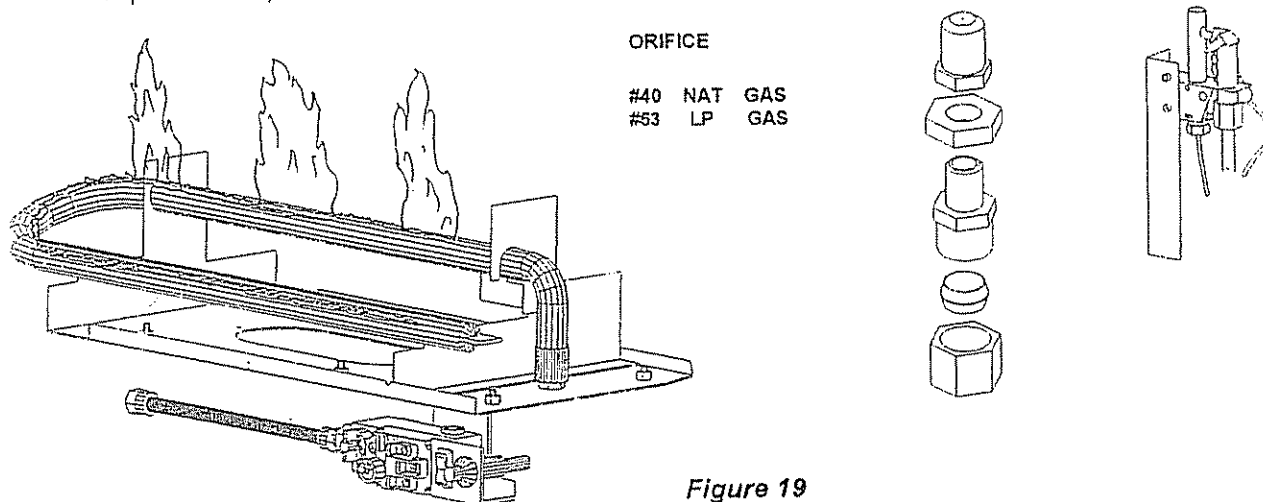

Figure 19
- 5 Annual cleaning of the burner is required. The burner may be removed for easier access. See Figure 5. Visually check the pilot light and burner when they are burning. See Figure 19. The flames should be steady, not lifting or floating